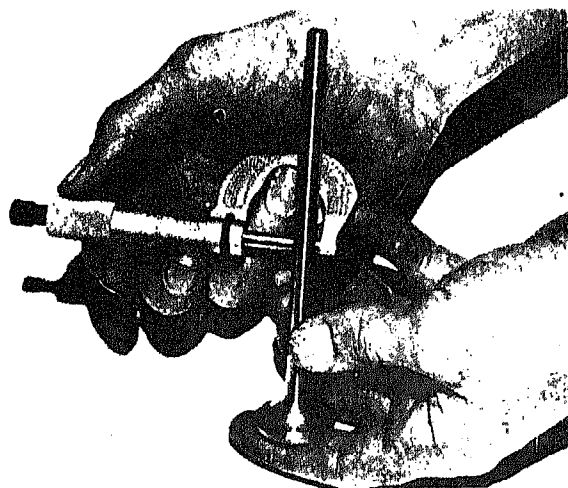

Fig. 2-5-2. Measuring valve stem
2. Stems, Fig. 2-5-2, are scored or worn beyond worn limits shown in Table 2-5-1.